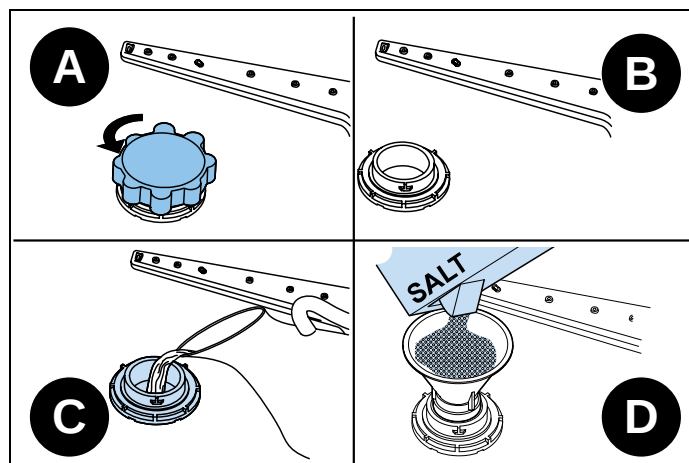

Fig. 60
- 1) To fill the dishwasher with salt, first remove the lower basket and then open the salt compartment cap by turning it counterclockwise. Fig. 60 A-B
- 2) At first use, fill the compartment with salt and water (Fig. 60 C) to the overflow level. If available, using the funnel (Fig. 60 D) provided will make filling easier.